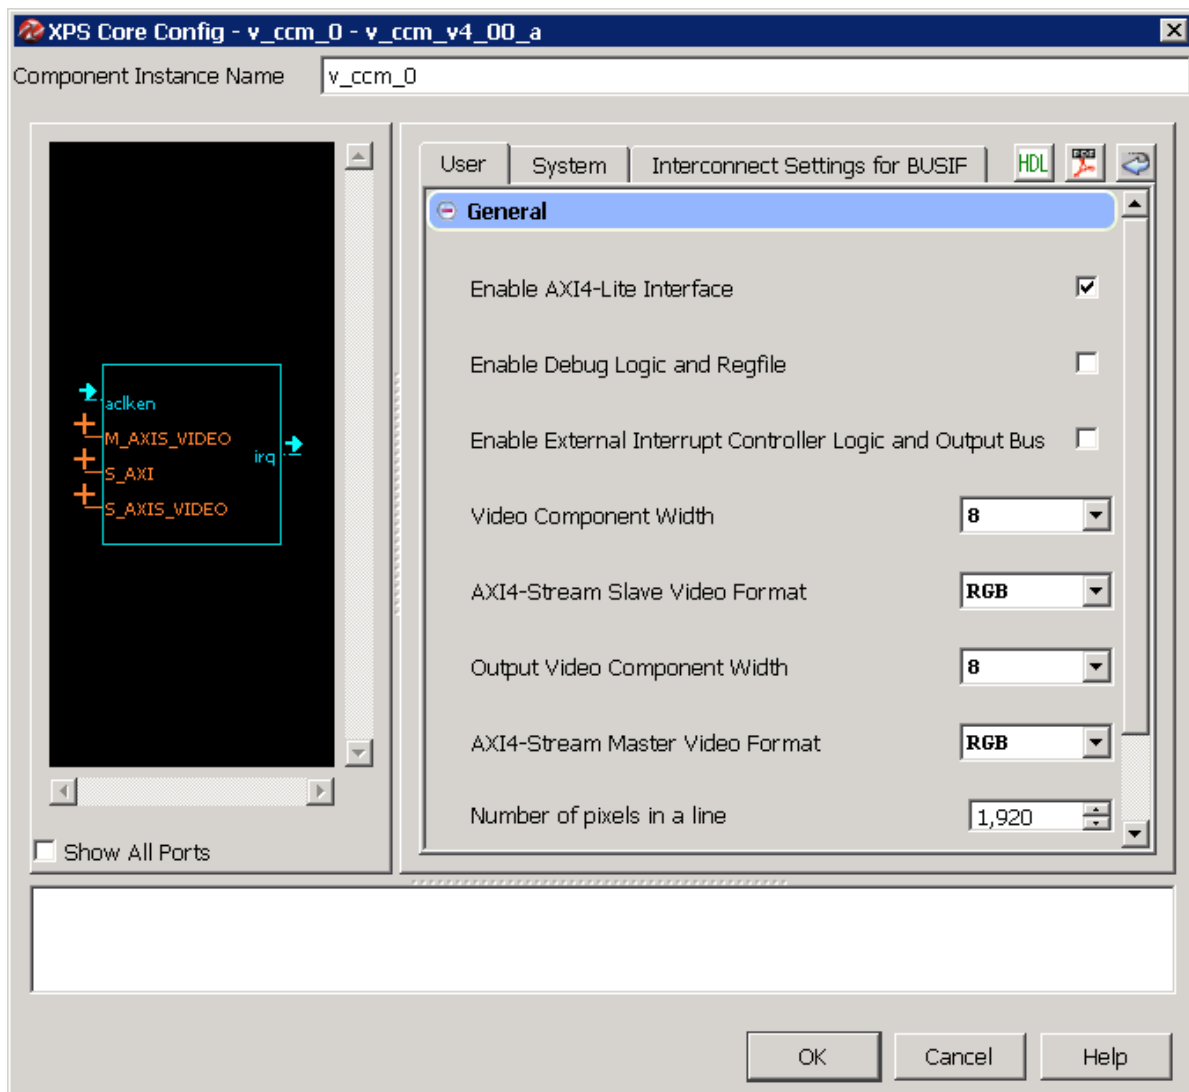

Figure 3-3: EDK Graphical User Interface
- **Offsets:** Enter the offset coefficients (O in Equation 1-1). These signed coefficients have the same bit width as the output. Enter the offset values (O in Equation 1-1). These signed integer values must be in the range  $[-2^{\text{Out\_Data\_Width}}, 2^{\text{Out\_Data\_Width}} - 1]$ , and are 1-bit wider than the Output Data Width specified on the first page of the GUI, as shown in Figure 3-3.